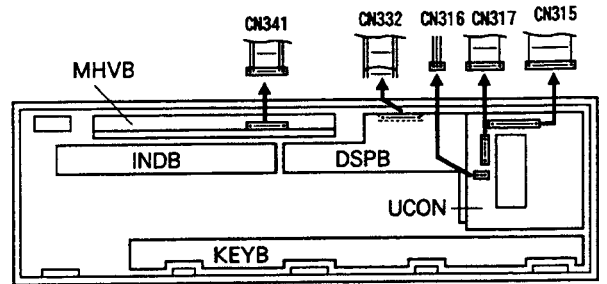

Fig. 7-2
- ① Remove six screws (A) to remove the bonnet.
- ② To remove the front panel assembly, remove three screws (B) and lift the claws as shown in the figure and lower the front panel toward the front. Disconnect five connectors as shown in Fig. 7-2 and remove the front panel.